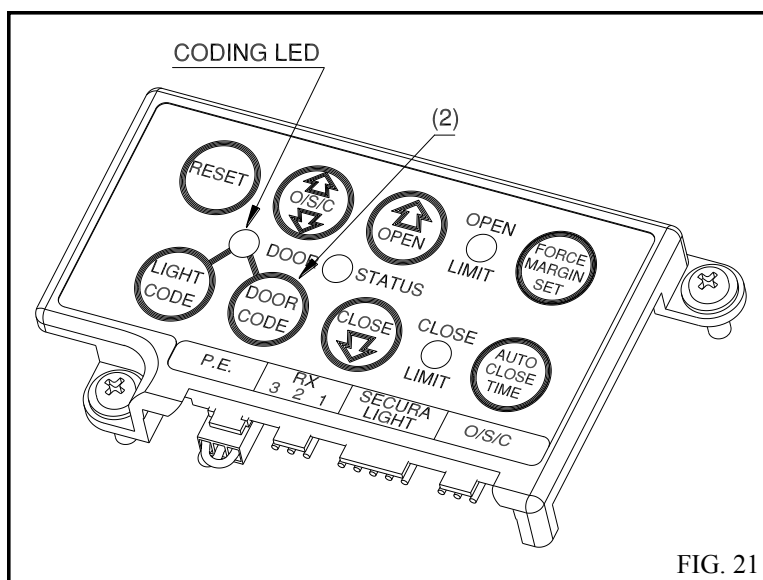

FIG. 21
2. Press and hold the blue Door Code button 2 (FIG. 21) on the Control Panel.
2. Press and hold the blue Door Code button 2 (FIG.21) on the Control panel.